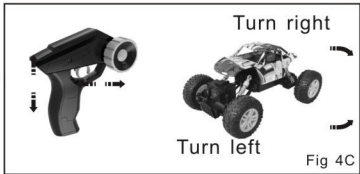

Fig 4C
- 2.Turn Left/Right: To push the Trigger forward/backward, and Control Wheel turns left/right, the truck would turn left/right. (Fig 4C)